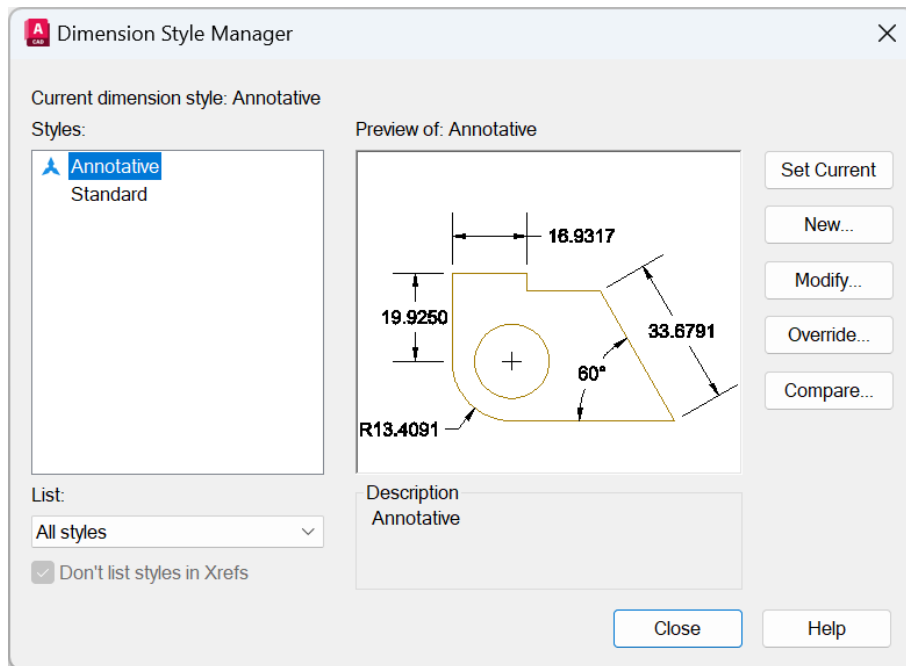

Figure 7.9 – The Dimension Style Manager dialog box
2. Using either method, you will see the **Dimension Style Manager** dialog box appear, as shown in Figure 7.9.
True to its name, **Dimension Style Manager** manages all your dimension styles in your DWG file. You will notice two default dimension styles: **Annotative** and **Standard**. In Figure 7.9, the **Annotative** style has a blue symbol next to it, indicating that it is, indeed, an annotative dimension style.